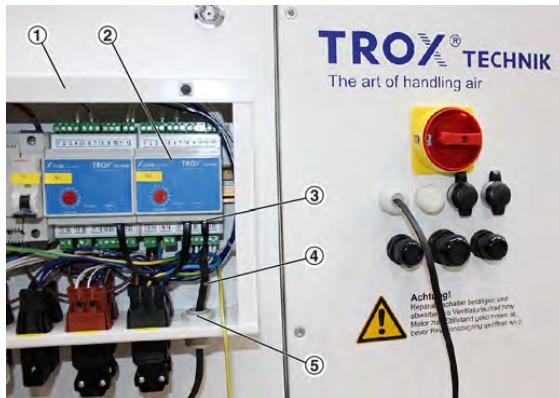

Fig. 4: Controls module
3. ▶ Open the cover of the controls module (Fig. 4/1) and set the address of the accessory on the Extension Module (Fig. 4/2) on page 7.
Take the supplied bus connecting cable (RJ12, Fig. 4/4) and feed it through the cable entry point in the casing of the controls module (Fig. 4/5) into the controls module.
Plug the bus connecting cable into the RJ12 socket (Fig. 4/3) on the Extension Module.